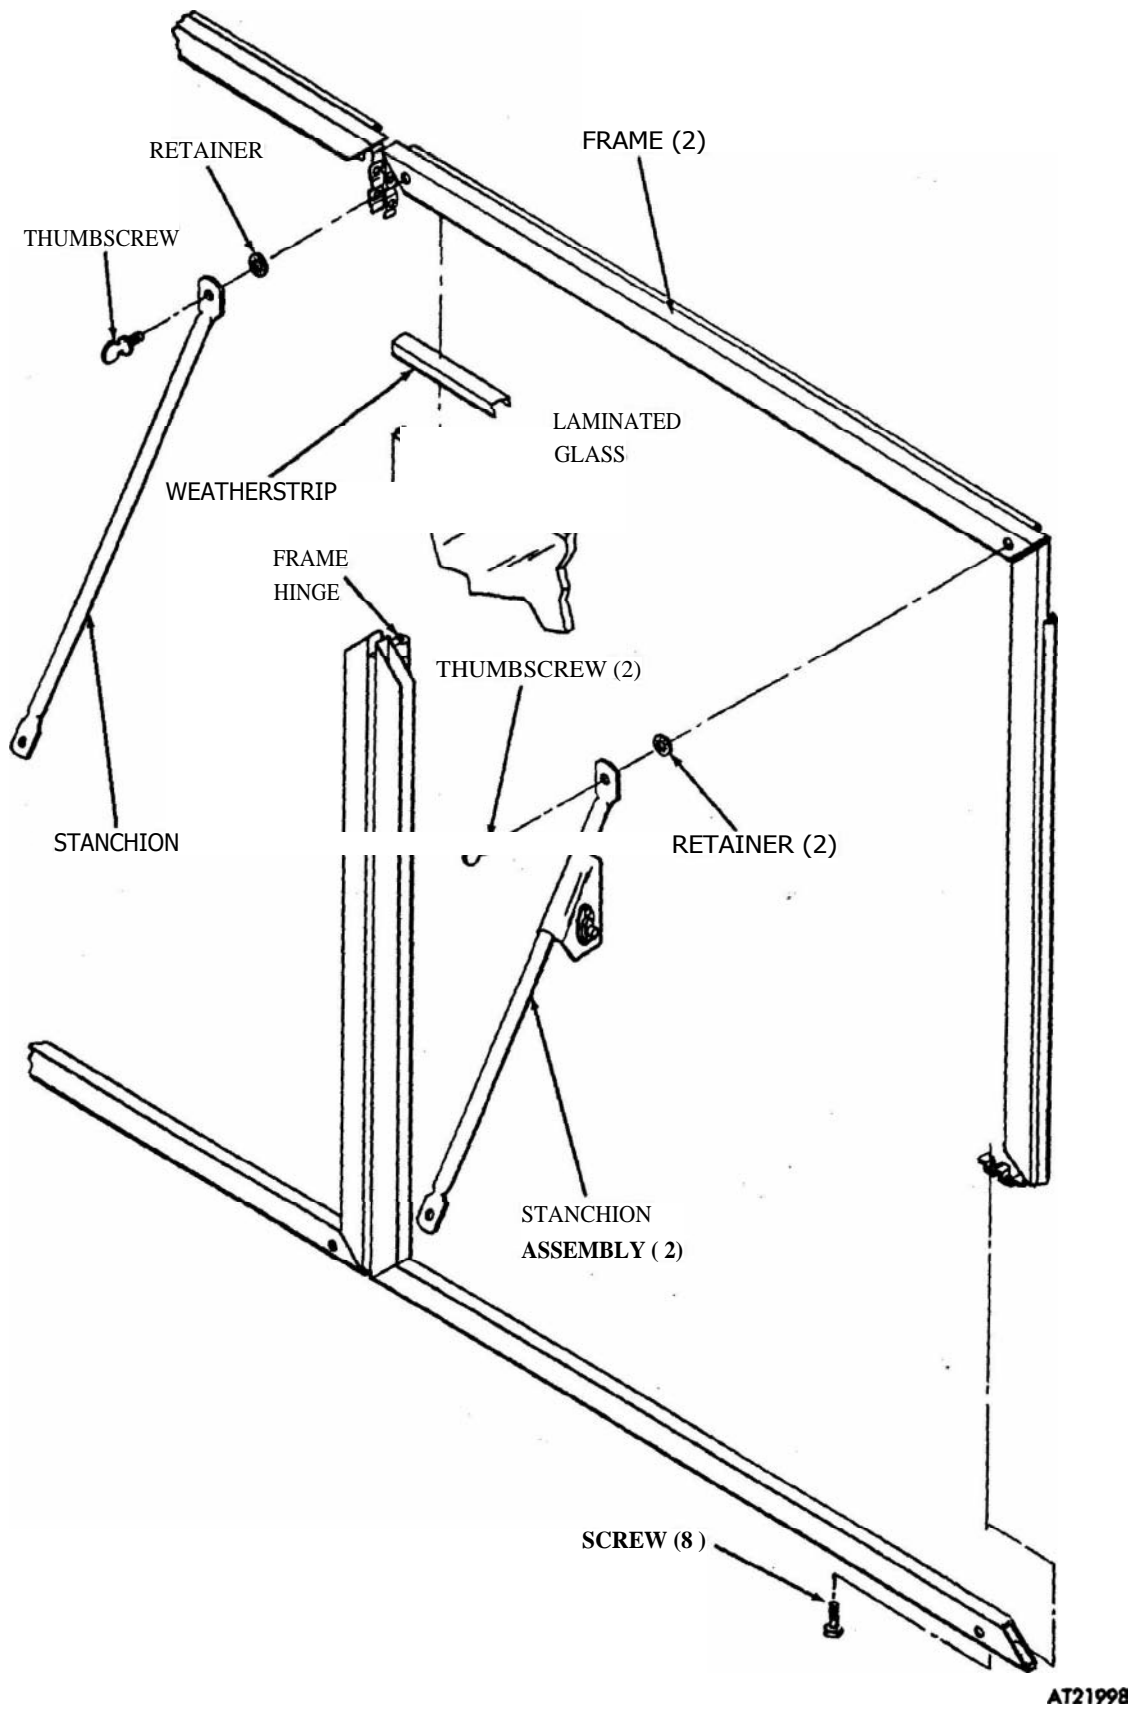

Figure 2-346. Windshield assembly and **disassembly.**
(1) Remove two thumb screws and retainers securing stanchions to windshield. Remove stanchions (fig 2-346).
(2) Remove glass (left- or right-hand side) according to the following steps:
(a) Coat outer surface and channel of weatherstrip and frame channel with approved sealing compound (fig 2-346).